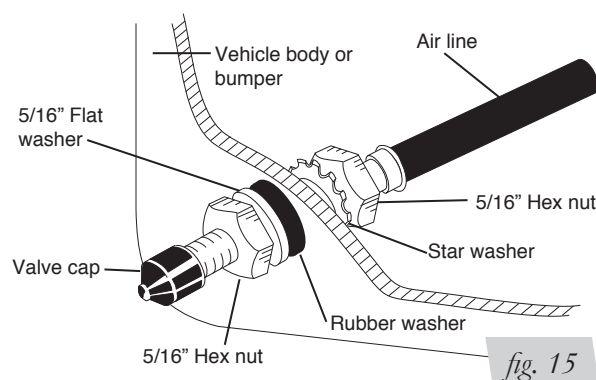

fig. 15
4. Place a 5/16" nut and star washer on the air valve. Leave enough of the inflation valve in front of the nut to extend through the hole and have room for the rubber washer, flat washer, and 5/16" nut and cap. There should be enough valve exposed after installation—approximately 1/2"— to easily apply a pressure gauge or an air chuck (fig. 15).